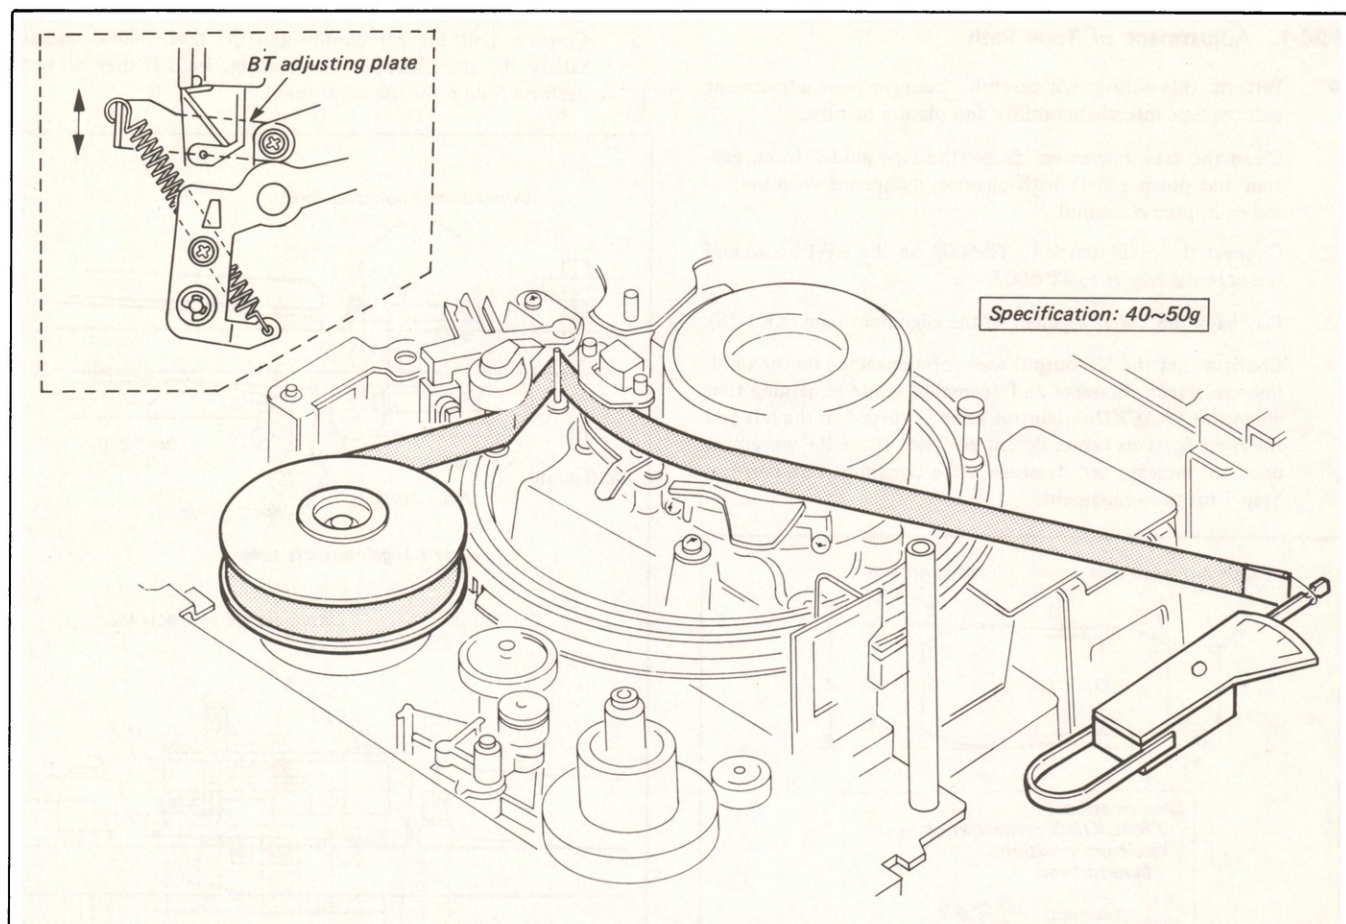

Fig. 3-44. Adjustment of FWD back tension
2. Place the FWD back tension jig (Tool Kit Ref. No. J-5) on the supply reel table assembly and thread the tape as shown in Fig. 3-44. Hook the sector type gauge (100g full scale, Tool Kit Ref. No. J-7) to the end of the tape.